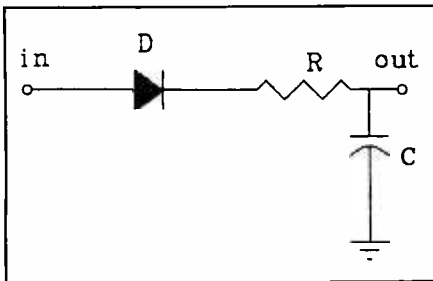

Fig. 3. A simple AM detector circuit arrangement.
is multiplied by dc-offset modulating signal (B) to yield transmitted composite (modulated) signal (C). Signal (C) is received and input to the detector arrangement shown in Fig. 3. The simple diode/resistor/capacitor circuit shown is all that's needed to retrieve the transmitted signal. Of course, a receiver would also contain a preceding r-f amplifier and an amplifier to drive a speaker.